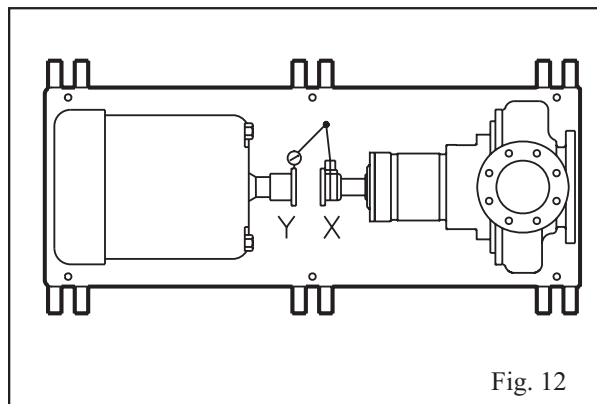

Fig. 12
1. Place two sets of wedges or shims on the foundation, one set on each side of every foundation bolt (Fig. 12, 13). The wedges should extend .75 in. (20 mm) to 1.5 in. (40 mm) above the foundation, to allow for adequate grouting. This will provide even support for the baseplate once it is grouted.